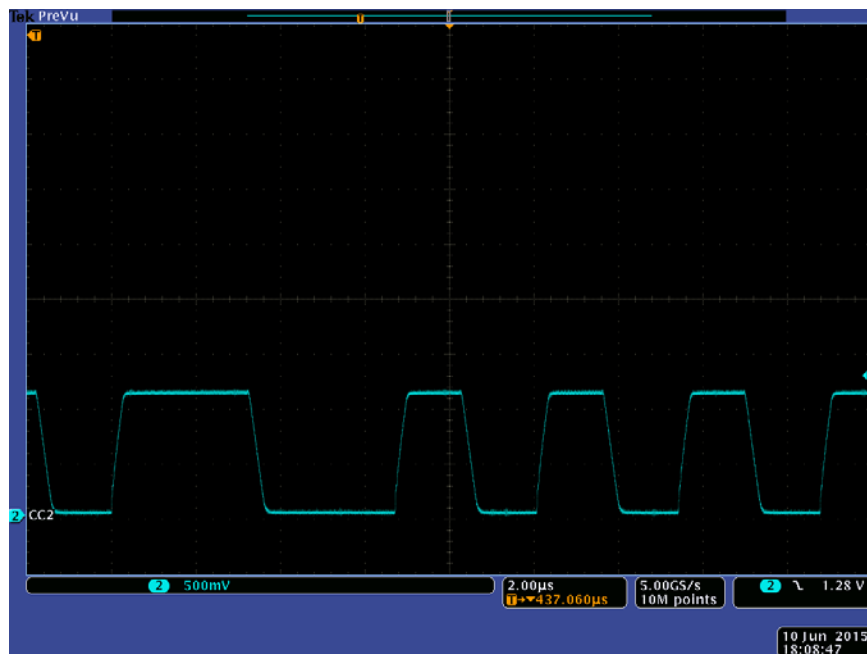

Figure 15. Specification-Compliant PD BMC Waveform
- Verify that the PD BMC waveform is clean (zoom in on CC2) **Figure 15**